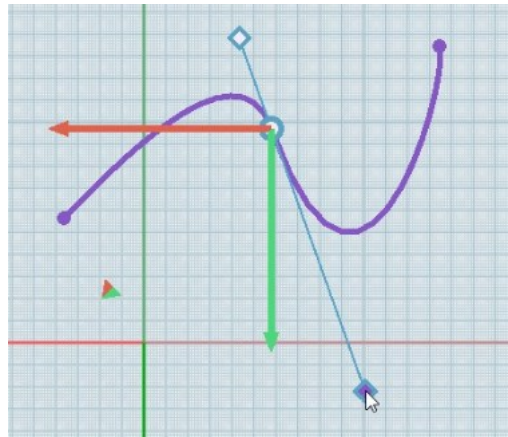

Figure 77 – Asymmetrical controller
- **asymmetrical** (Figure 77). The control point and two markers always lie on the same straight line. If you pull the marker of one part of the controller, only the length of this part will change, while the second marker will remain in line with the first;